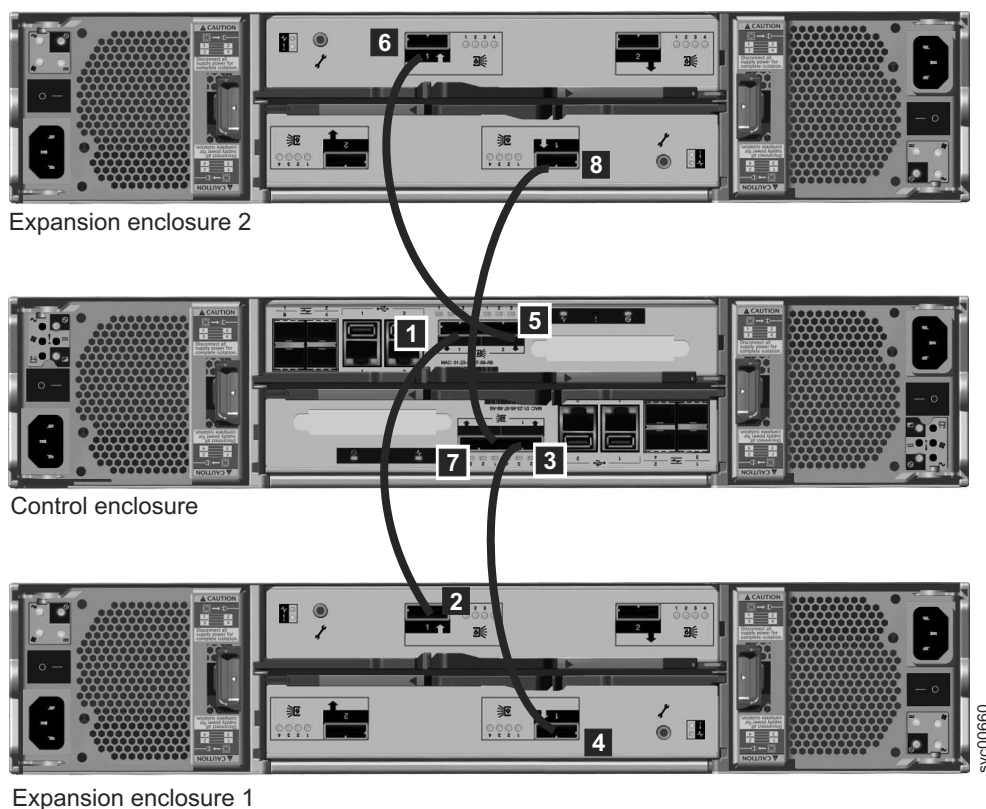

Figure 13. Adding a second expansion enclosure
3. Attach the SAS cables from the control enclosure to the second expansion enclosure as shown in Figure 13 on page 18. The second expansion enclosure is